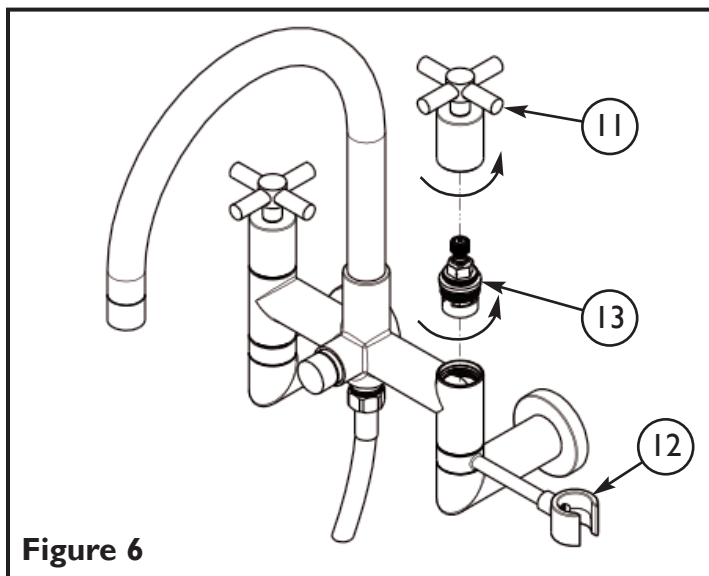

Figure 6
2. Unscrew the HANDLE (11) assembly on the side with the HOLDER (12). See **Figure 6**.
3. Remove the CARTRIDGE (13). See **Figure 6**.